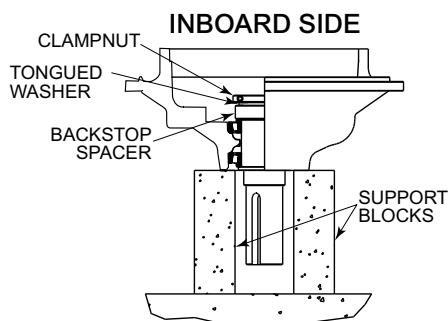

**Figure 6.3.1 Proper Lifting of Input or Output Shaft Assemblies**
7. Remove assembly by lifting it straight up away from the maincase. An eye bolt can be used in the threaded end of the shaft to lift the assembly; reference Figure 6.3.1. **DO NOT LIFT ENTIRE REDUCER BY THE THREADED HOLE ON EITHER SHAFT.**